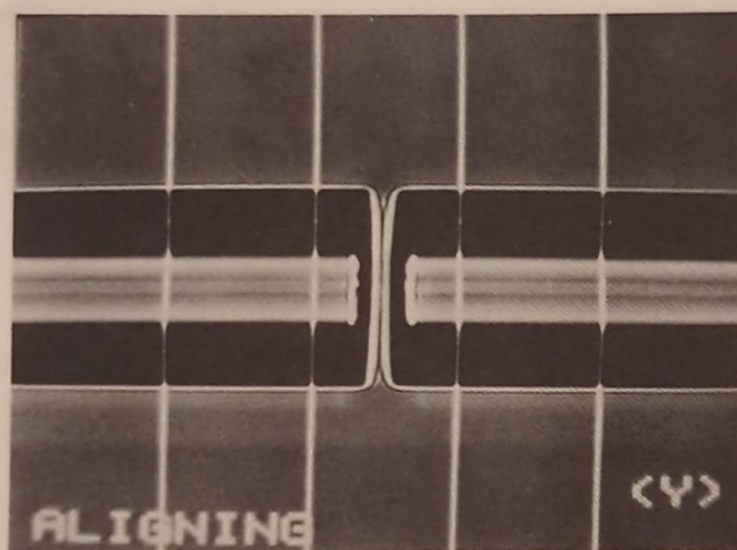

Fig. 20 Aligned SM Fiber Image on the Monitor
At the point of checking the fiber end faces condition, alignment can be done manually. Push the XF(YF), XR(YR) switch to align the core axes so that the fiber image is the same as illustrated in Fig. 20.